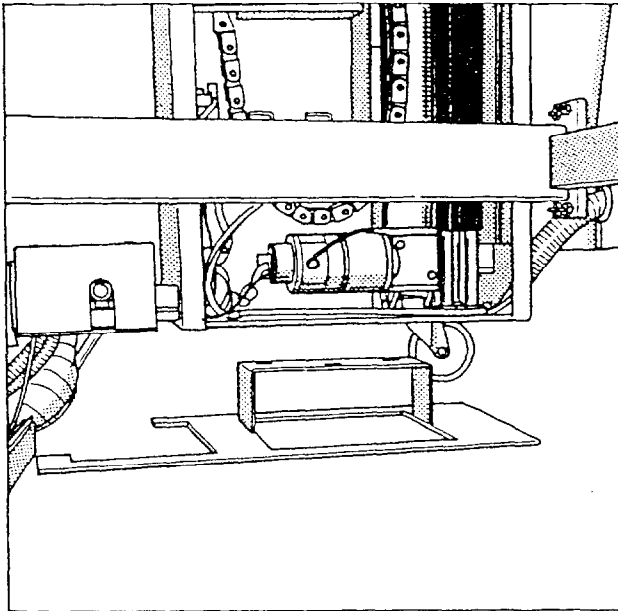

Fig. 7
- ⏪ ⚠ • Remove the transport safety device below the lifting column (Fig.7)!